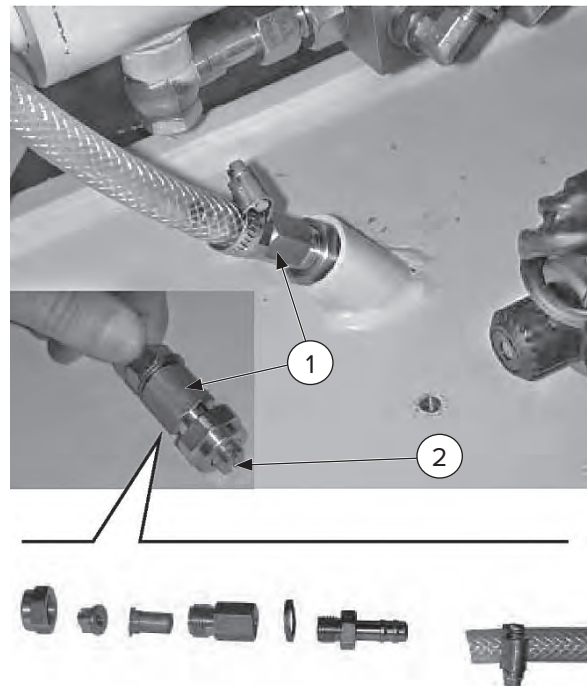

Figure 21
1. Check the water nozzles [Figure 21, Item 1] located on the attachment and clean them if necessary.